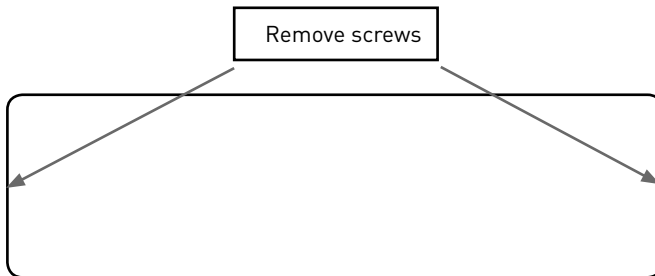

Fig 1
- Remove the 2 screws at either end of the fitting securing the base plate of the luminaire (see Fig 1)